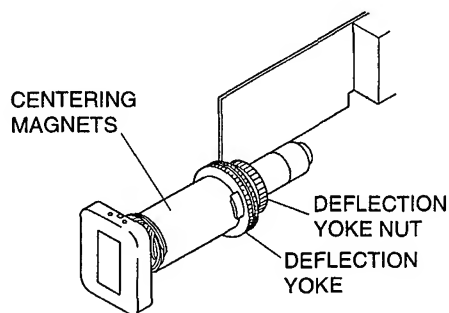

Fig. 3-51
### (1) Deflection Yoke Position Adjustment (Fig. 3-51)
### (2) EVF Centering Adjustment (Fig. 3-51)